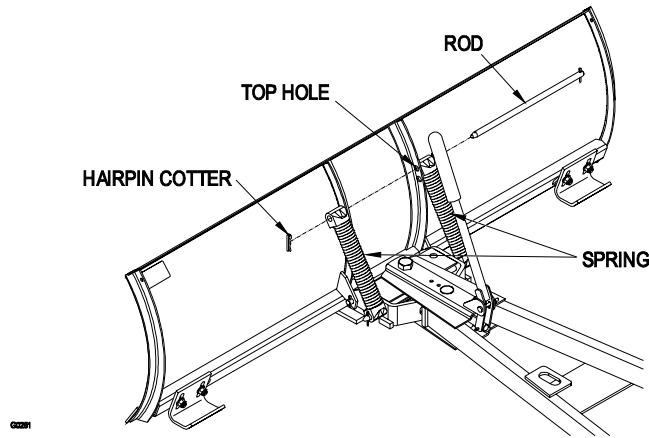

Figure 13
The blade trip springs can be mounted in four positions. The top hole provides the greatest scraping pressure and the bottom hole provides the least scraping pressure (Fig. 13).
1. Remove the hairpin cotter and slide the rod from the blade and springs (Fig. 13).
2. Slide the rod through the springs and the new hole position in the blade (Fig. 13).